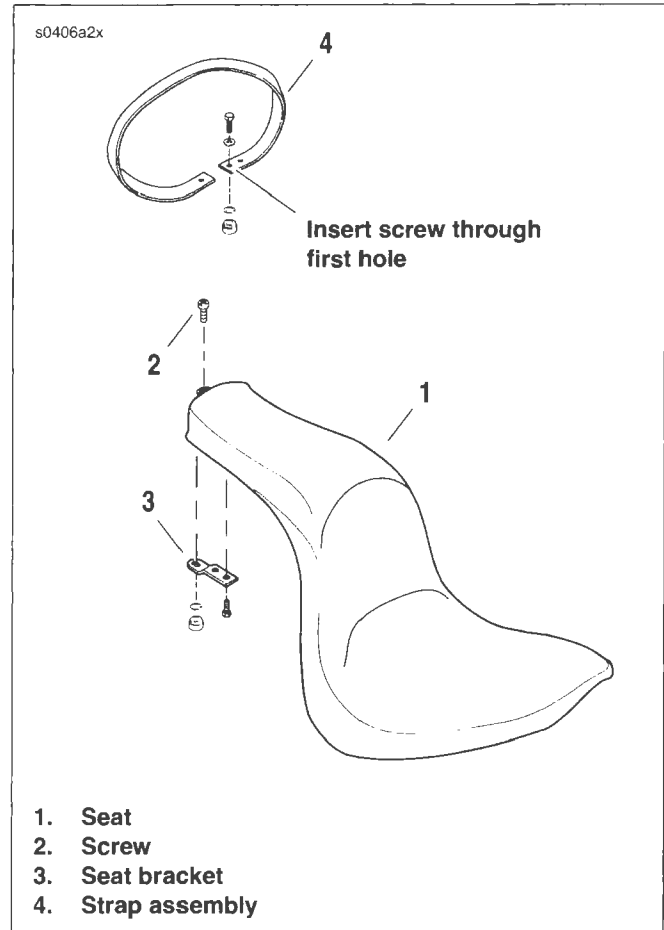

Figure 2-160. Seat
See Figure 2-160. Seat (1) attaches with a single screw (2) through the seat bracket (3). When installing seat, insert tang at front of seat into the channel in the frame and install screw.